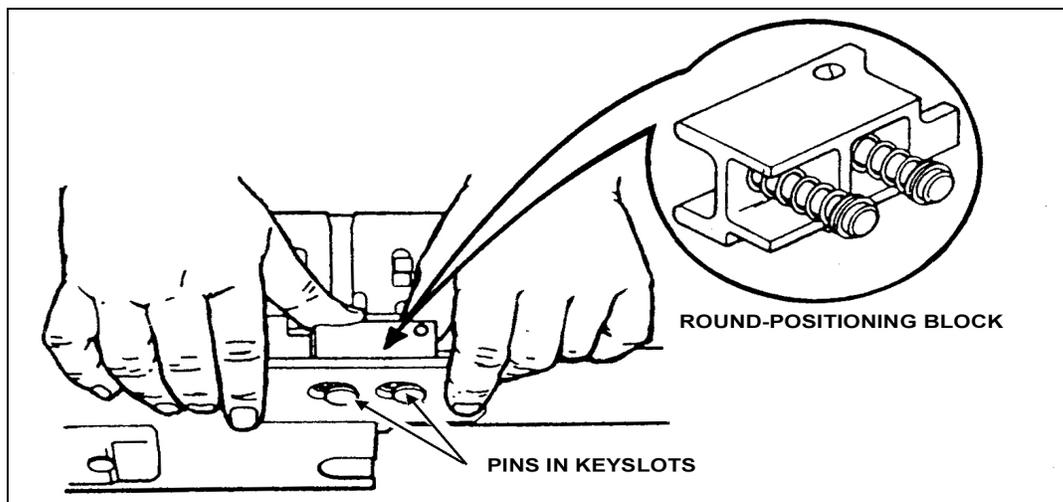

Figure 2-17. Round-positioning block.
(7) Take off the round-positioning block by following these procedures:
- (c) Release the round-positioning block forward from the keyslots in the receiver wall (Figure 2-17).